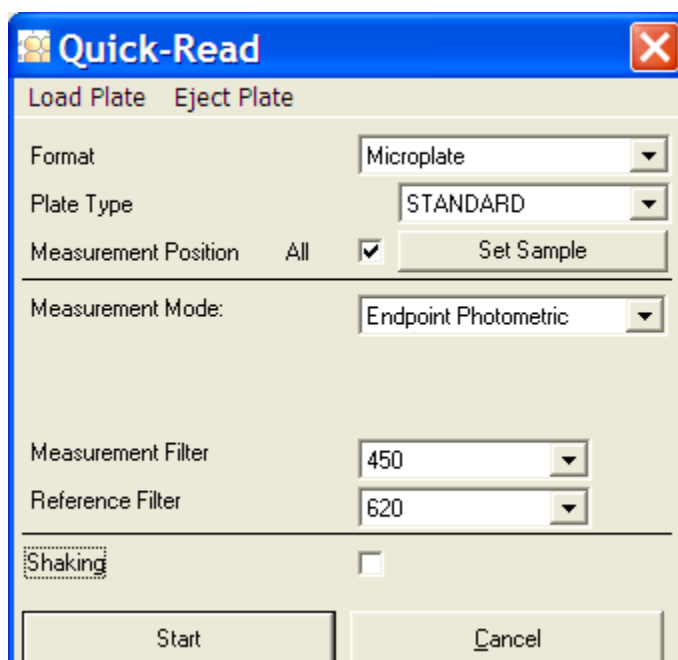

Figure 6.6 Quick Read
2. In Measurement Mode, select Multiwavelength. The measurement parameters available for multiwavelength measurements appear (Figure 6-6).